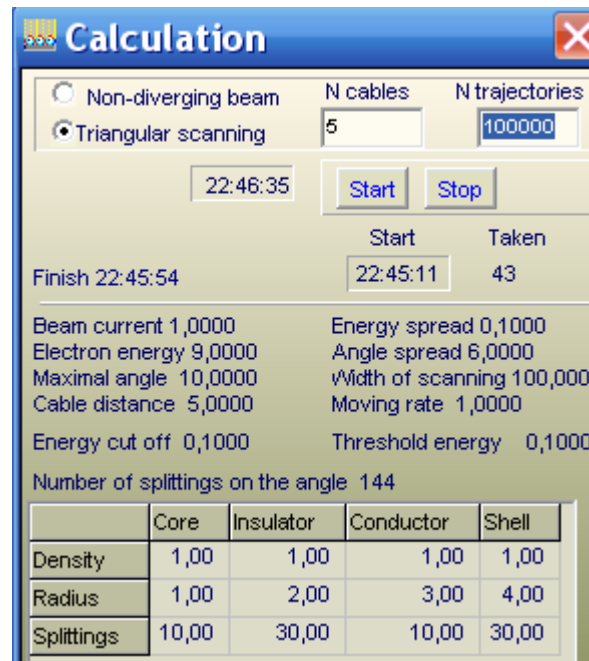

Fig.5. Frame “Calculation” with Table of input data.
- Click the button “Eye”. The Table with all input data will be open. (See Fig.5)